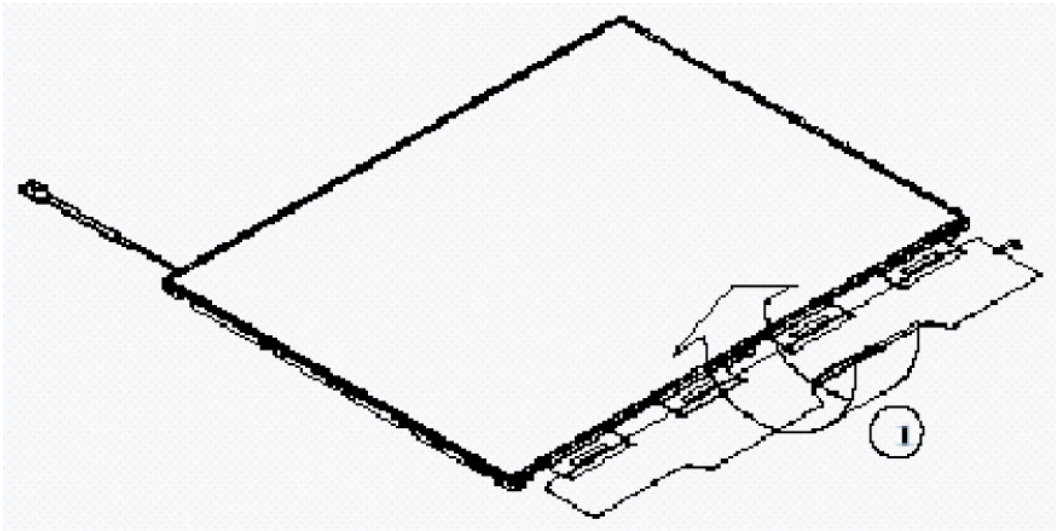

Figure 4-49 Replacing 14.1 Inch TMD fluorescent lamp (XGA) (8)
1. Fold down the TAB (PCB) toward the reverse side of the backlight unit, as shown in Figure 4-49.